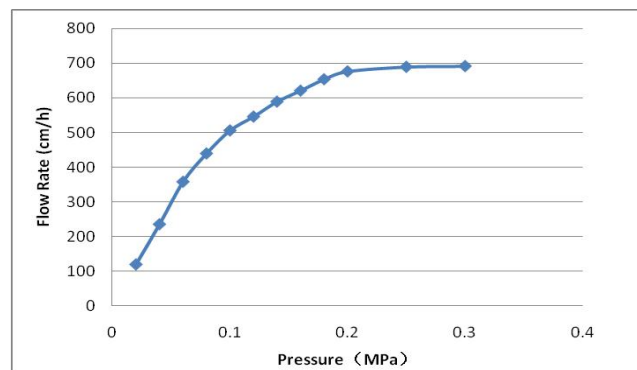

Fig.1. A typical pressure/flow rate curve for **CM, SP, DEAE, Q Beads 6FF**
**CM, SP, DEAE, Q Beads 6FF** are part of Ion exchange Resin which is widely used in biomedical and bioengineering for separation and purification of proteins, nucleic acids and polypeptides. The base matrix of **CM, SP, DEAE, Q Beads 6FF** is 6% highly cross-linked agarose which gives the ion exchange resin chemical and physical stability. The characteristics such as capacity, elution behavior and pressure/flow rate are unaffected by the solutions commonly used in process chromatography and cleaning procedures, for details see table under each respective ion exchange resin. Fig.1 is the pressure/flow rate curves of the matrix.